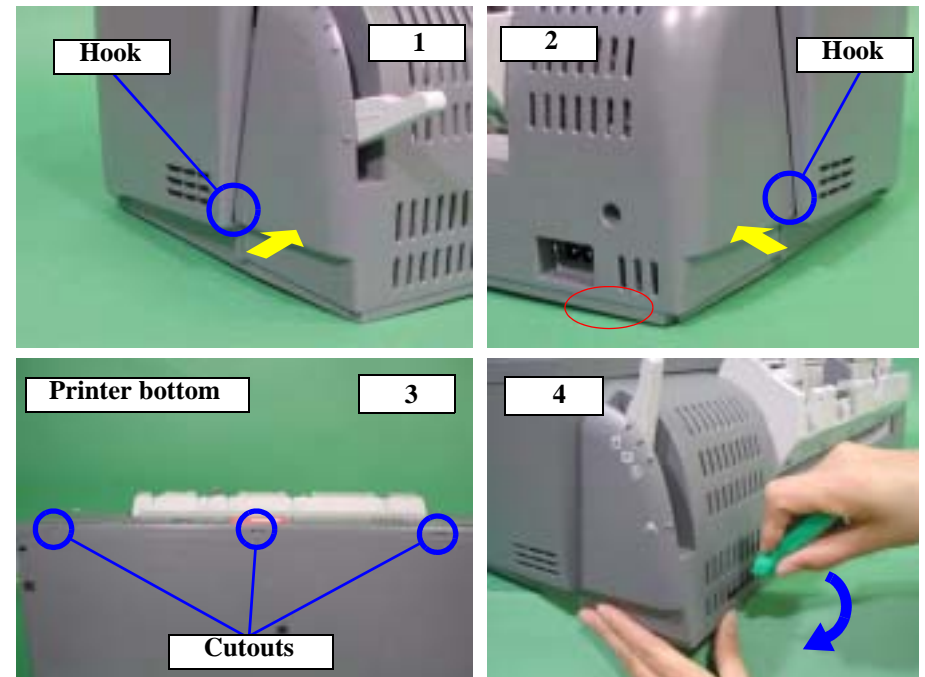

Figure 4-8. Hooks and Cutouts That Secure the Rear Housing
- Remove the right side hook figured on 2 in the Figure4-8 by pushing the blue circled portion strongly. Then remove the right bottom (red circled portion on 2 in the Figure4-8).
- After that, while pulling the Rear housing downward, remove the left side hook figured on 1 in the Figure4-8 by pushing the blue circled portion strongly. By pulling the Rear housing downward, the left bottom cutout portion is easily released from the bottom housing.
Refer to Figure 4-8, "Hooks and Cutouts That Secure the Rear Housing".